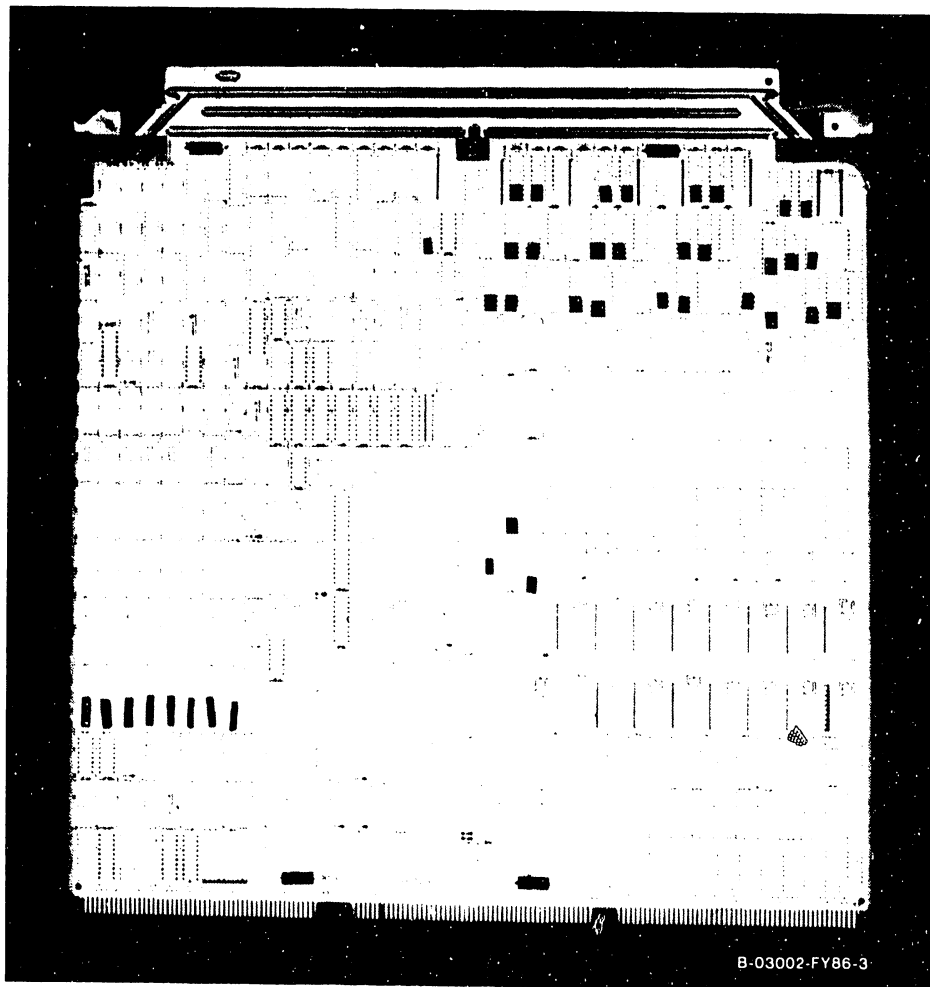

Figure 5-14. 210-8830 Floating Point Unit
5. Remove the Floating Point Unit (FPU) (figure 5-14) from backplane slot #1 by lifting the snap locks to free the board from the card cage connectors. Once the board is free of the connectors, ease it forward in the board guides and out of the board cage.